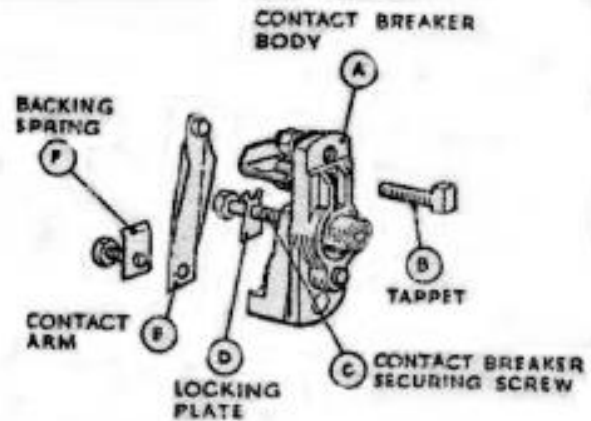

Fig. 56. Contact breaker assembly.
Fit the contact breaker body (A, Fig. 56) in position on the location at the end of the shaft after making sure that the tappet (B) is free and is located correctly in its guides. Place the contact breaker securing screw (C) and locking plate (D) in position, tighten and lock by bending up the tags of the locking plate.